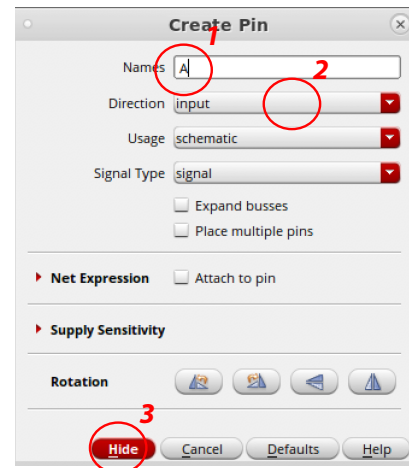

Figure 1.15: Schematic pin creation.
- Create the input pin. To do so: *Create -> Pin* or press **p**. A window appears (Fig. 1.15, prompting you to enter the name (*A*) and the direction (*input*) of the pin. Click on *Hide* and place the pin on the schematic. You can either place them directly on the net they are supposed to connect to, or on the left of your schematic (and connect the nets later through some labels).